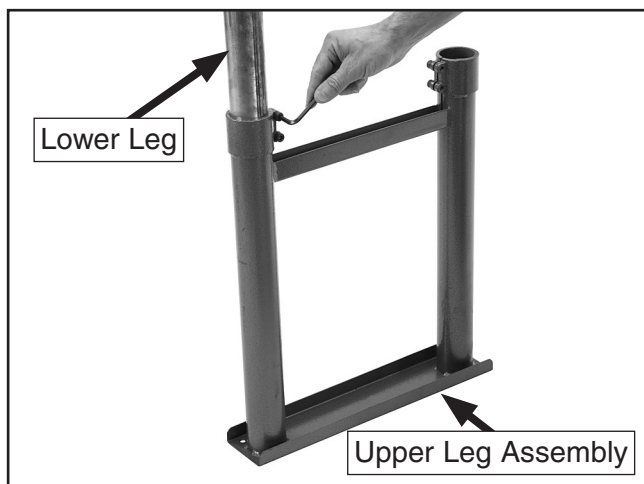

Figure 11. Lower leg attachment.
1. Insert one lower leg into the upper leg assembly, as shown in **Figure 11**. Tighten one of the cap screws to temporarily hold the leg in place. Repeat for the other seven legs.